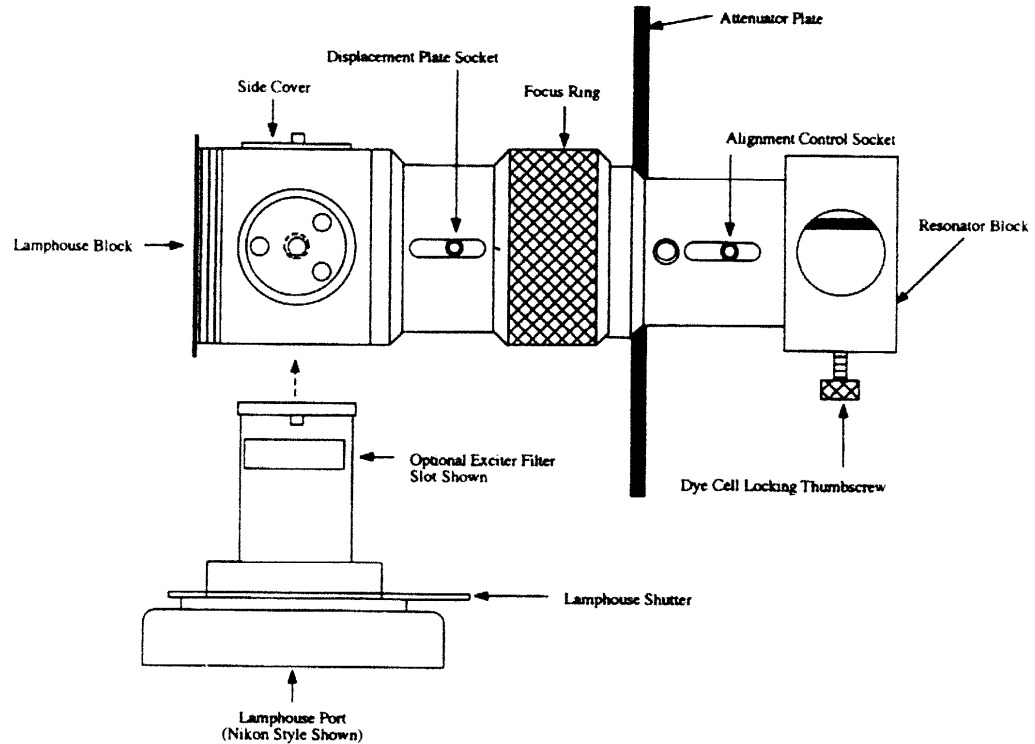

Figure 3-25: MicroPoint Laser Illumination and Ablation System
- i) With the laser running at about 10 Hz change the position of the attenuator plate to increase laser energy until you find the cutting threshold of the mirror. The attenuator plate socket is shown in Figure 3-25. The point where more energy cuts the mirror when in focus and less energy stops cutting the mirror is the proper setting.